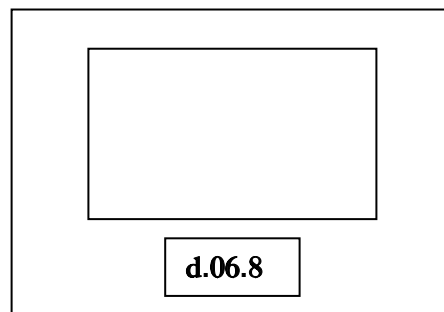

Figure 49
6.8 - PrCh. The display in Figure 49 appears. The PPV display shows the dispenser is in Diagnostics Level 6.8.